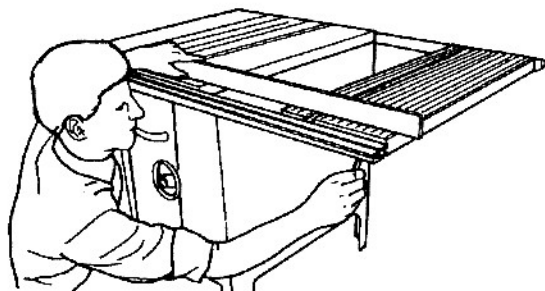

Fig. C-19
29. Place a level or straightedge across the front of the main table and extension table, as demonstrated in Fig. C-19. When the extension table is level with the main table, tighten the nuts attaching the locking plates only enough to hold the table in place.